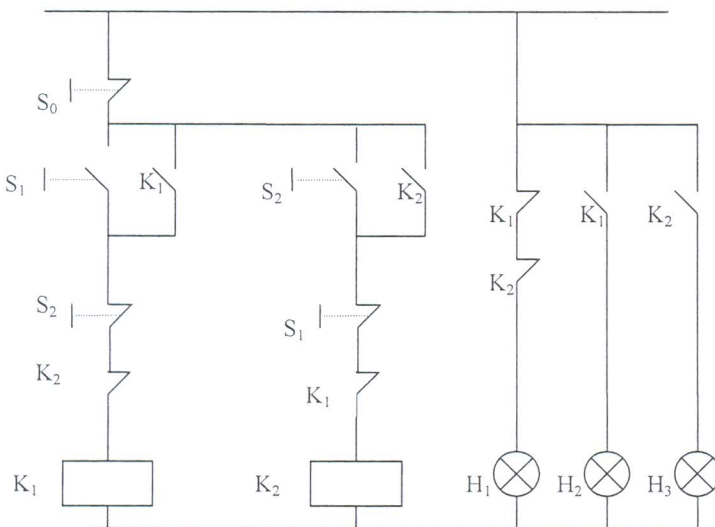

Fig. 1
- Describe the function of hardwire circuit shown in Fig.1, then convert it to the corresponding logic circuit and ladder.